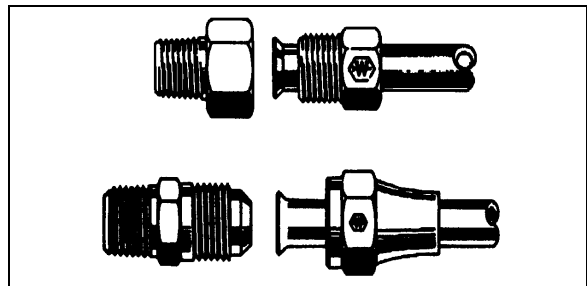

FIGURE 35: HOSE FITTINGS 12053
**45° Flare and Inverted Flare:** Tighten assembly with a wrench until a solid feeling is encountered. From that point, tighten 1/6 turn (Fig. 35).